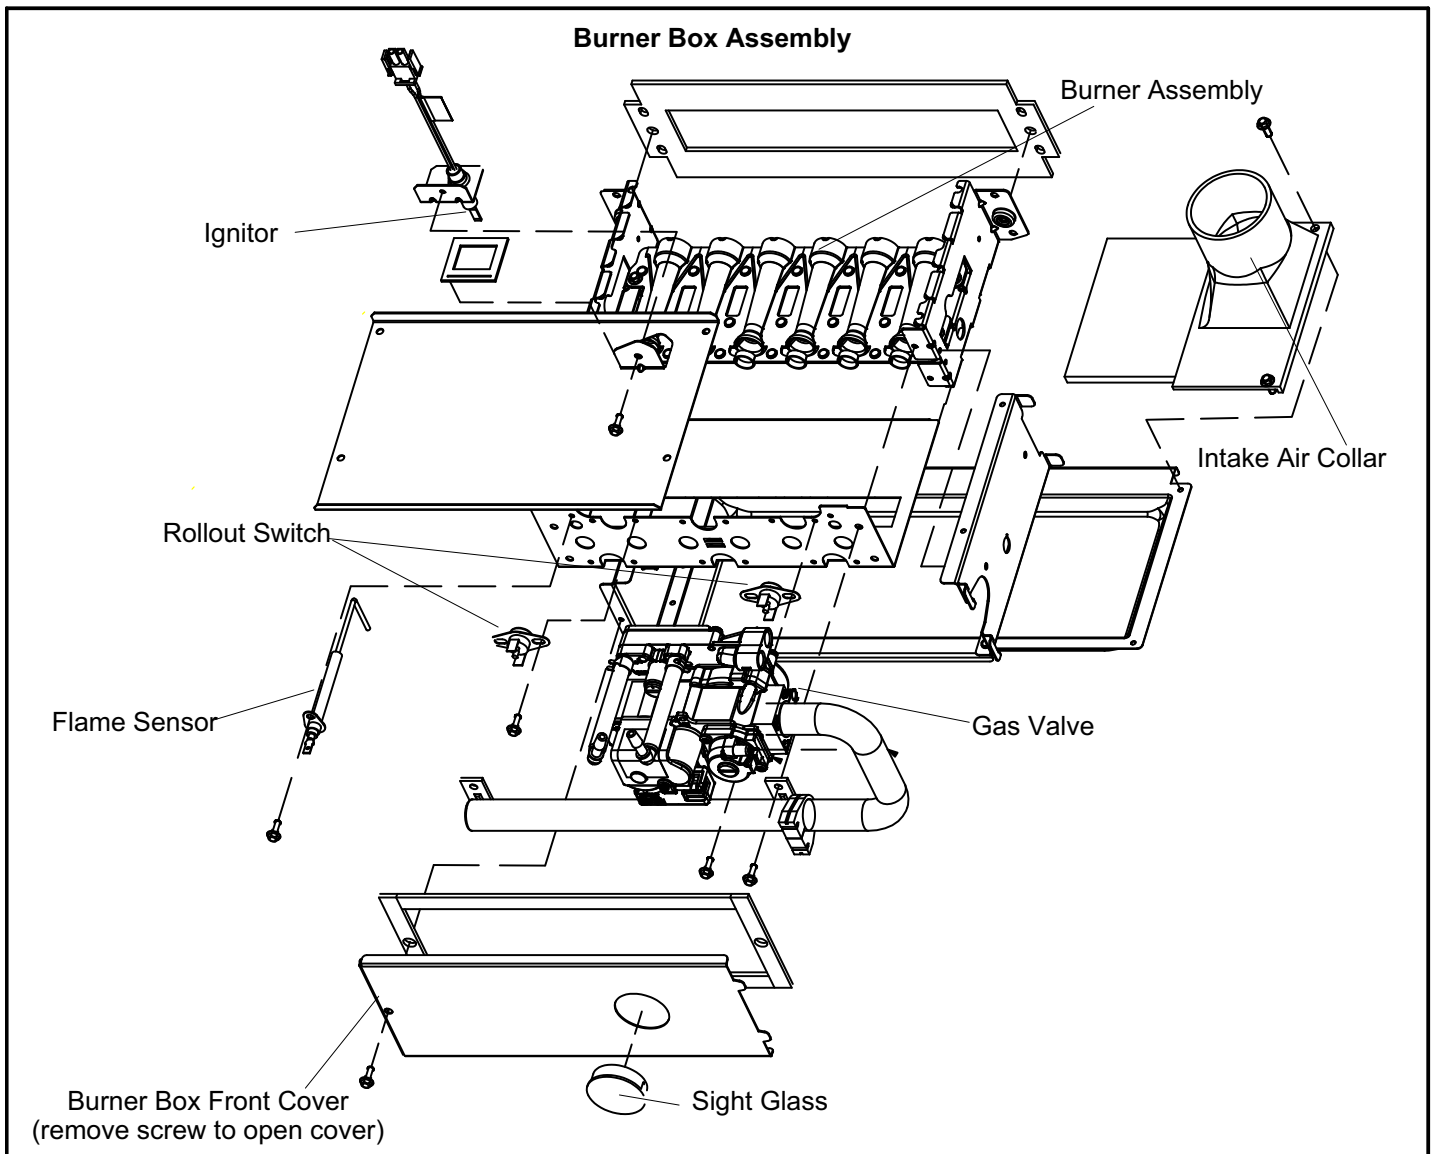

FIGURE 14
1. Ignitor (Figure 14)
2. Flame Sensor (Figure 14)
3. Flame Rollout Switches (Figure 14)
4. Burners (Figure 14)